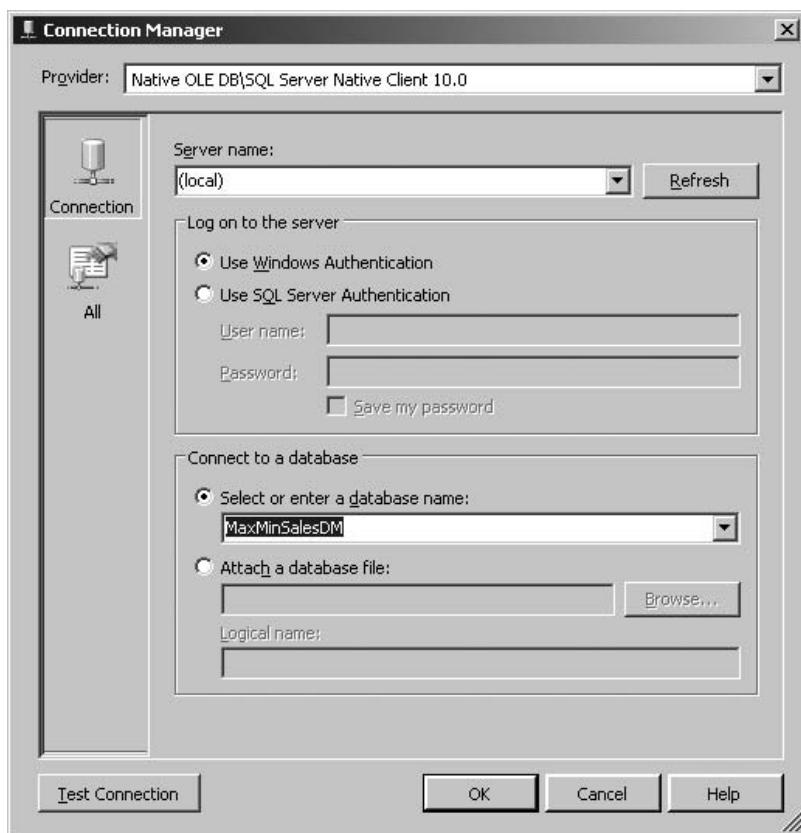

Figure 6-32 The Connection Manager dialog box
48. Select MaxMinSalesDM from the Select or Enter the Database Name drop-down list. (A valid set of credentials must be specified before the drop-down list is populated.) The Connection Manager will appear, as shown in Figure 6-32.